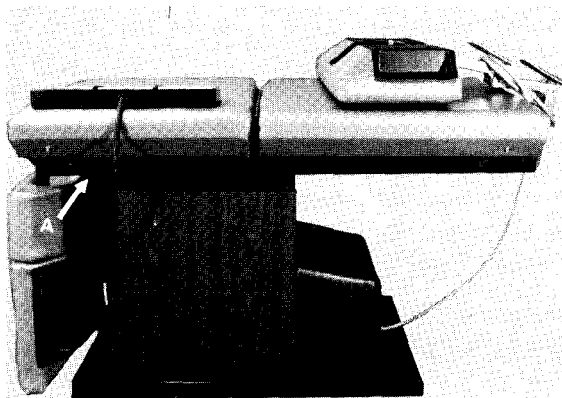

Fig. 1
**Unpacking:** When unpacking the table, to keep from damaging the upholstered top or wooden side panels, do not use a knife or other sharp object to open the packaging. When moving the table, lift only at points "A" shown in Fig. 1. (Note: Table is bolted to wooden shipping skid at each corner of the base.)